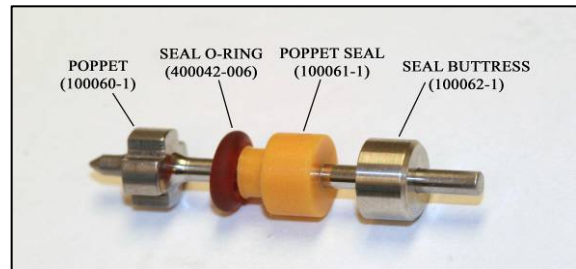

Figure 5
- Apply a light coat of Food Grade Lube (400034-2) to the red Seal O-Ring (400042-006) and slide over the Poppet Seal (100061-1) groove. **See Figure 5**
- Apply a light coat of Food Grade Lube to the shaft of the Poppet (100060-1). **See Figure 5**
- Slide Poppet Seal (with O-Ring installed) half way down the shaft of the Poppet with the Seal O-Ring facing tip of Poppet. **See Figure 5**